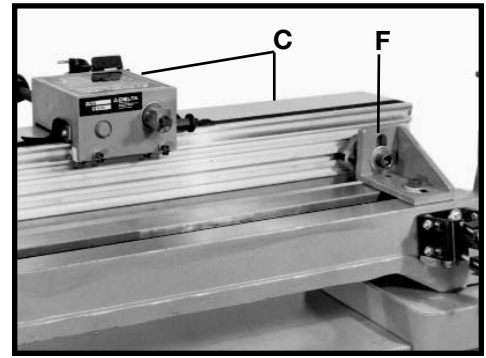

Fig. 37
7. Mount the duplicator assembly (C) Fig. 37 to mounting bracket (F) on the other end of the lathe in the same manner. **IMPORTANT: Tighten all mounting hardware.**